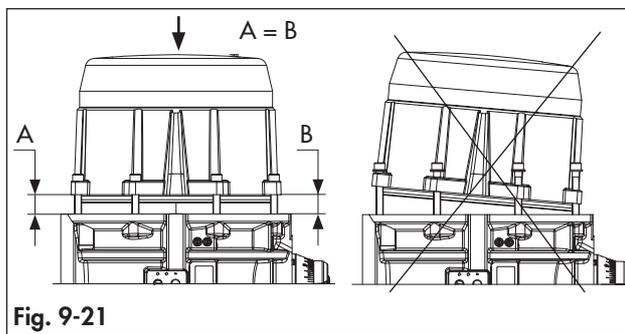

Fig. 9-21
- Assemble the end caps as shown in Fig. 9-21 keeping a constant distance ( $A = B$ ) between the actuator body and the end cap interface.